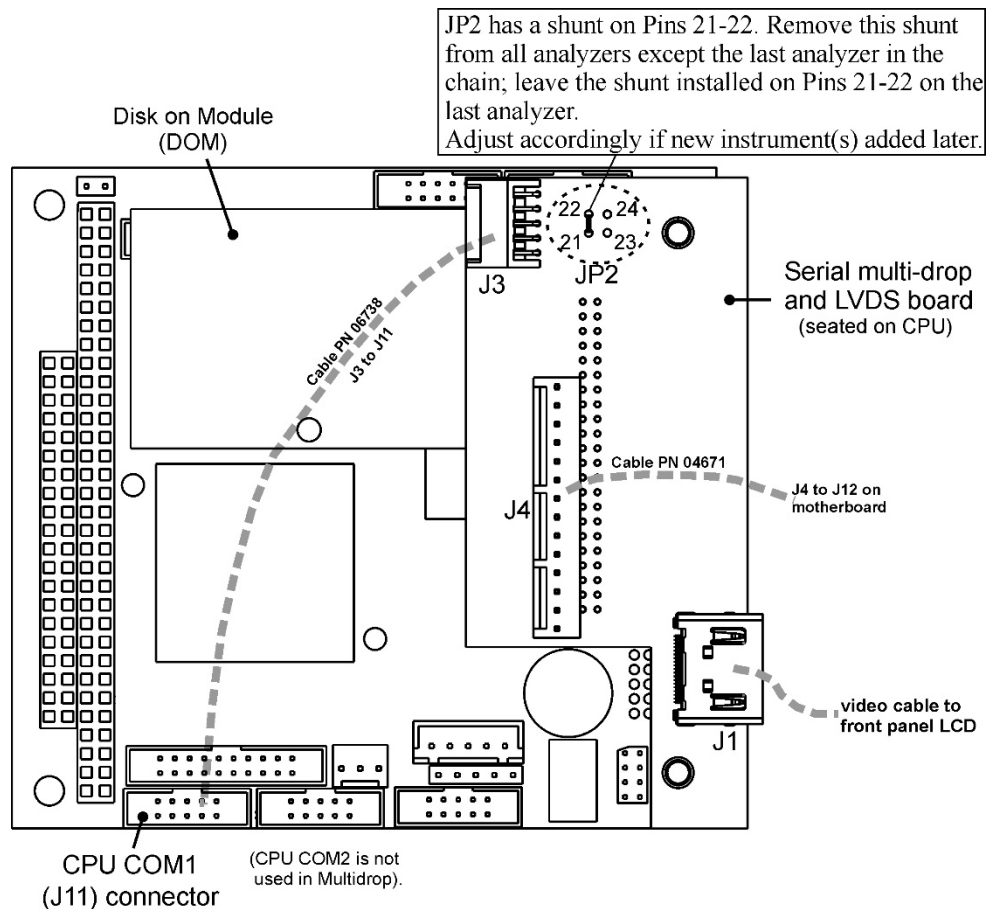

Figure 2-11. Jumper and Cables for Multidrop Mode
In each instrument with the Multidrop option there is a shunt jumpering two pins on the serial Multidrop and LVDS printed circuit assembly (PCA), as shown in Figure 2-11. This shunt must be removed from all instruments except that designated as last in the multidrop chain, which must remain terminated. This requires powering off and opening each instrument and making the following adjustments:
2. On the Multidrop/LVDS PCA's JP2 connector, remove the shunt that jumpers Pins 21 ↔ 22 as indicated in Figure 2-11. (Do this for all but the last instrument in the chain where the shunt should remain at Pins 21 ↔ 22).
3. Check that the following cable connections are made in *all* instruments (again refer to Figure 2-11):